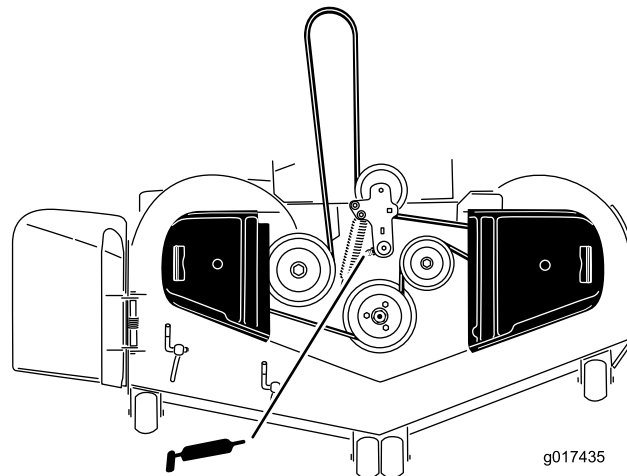

Figure 33
3. Grease the mower deck idler pulley pivot until grease come out the bottom (Figure 33).